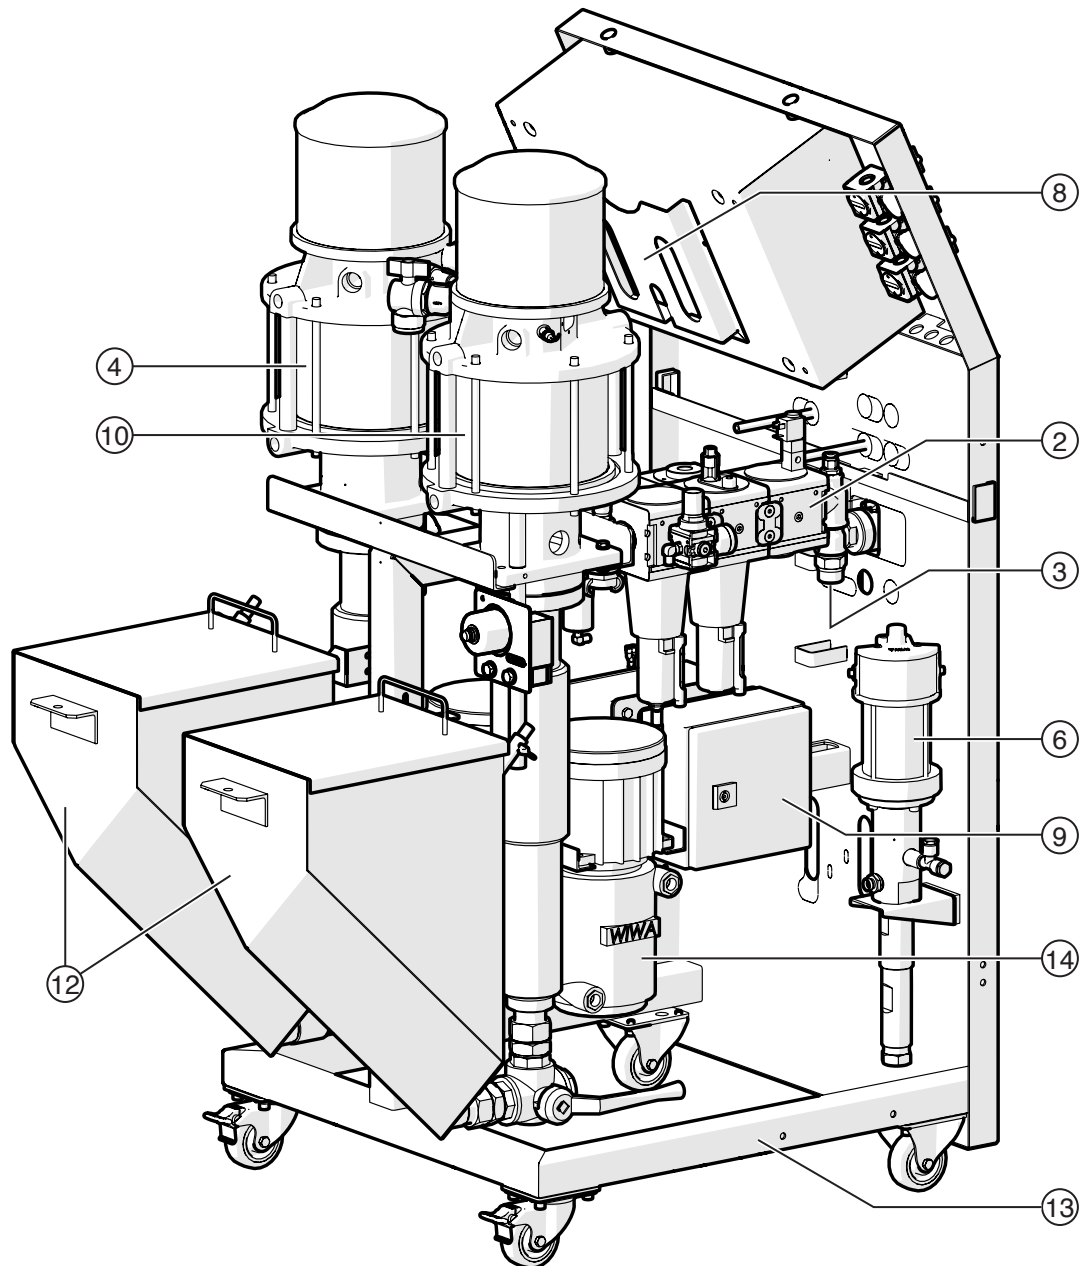

Fig. 9: Rear view of the FLEXIMIX 2 PROFESSIONAL (example)
- the PROFESSIONAL series with a delivery rate of up to 306 cm² per cycle depending on pump combination (see Fig. 9 on page 21).